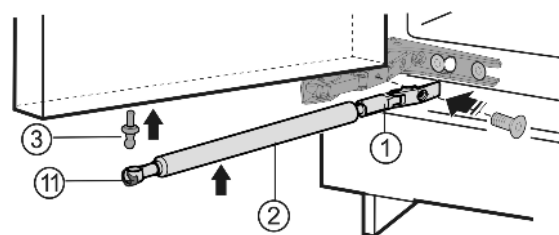

Fig. 5
- ▶ Screw the ball stud Fig. 5 (3) firmly into the new fastening hole **with 4 Nm** (Torx® 20).
- ▶ Push tension spring Fig. 5 (11) inwards again.
- ▶ Screw the mount Fig. 5 (1) firmly into place **with 3 Nm**.
- ▶ Attach soft stop mechanism Fig. 5 (2) to ball stud.